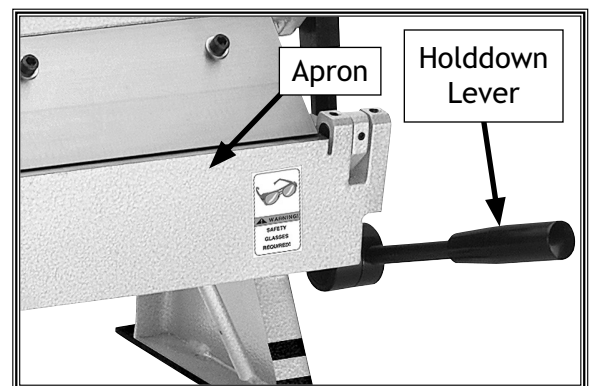

Figure 3. Holddown lever.
2. Lift the hold down lever (see Figure 3), and insert the sheet metal between the fingers and apron.